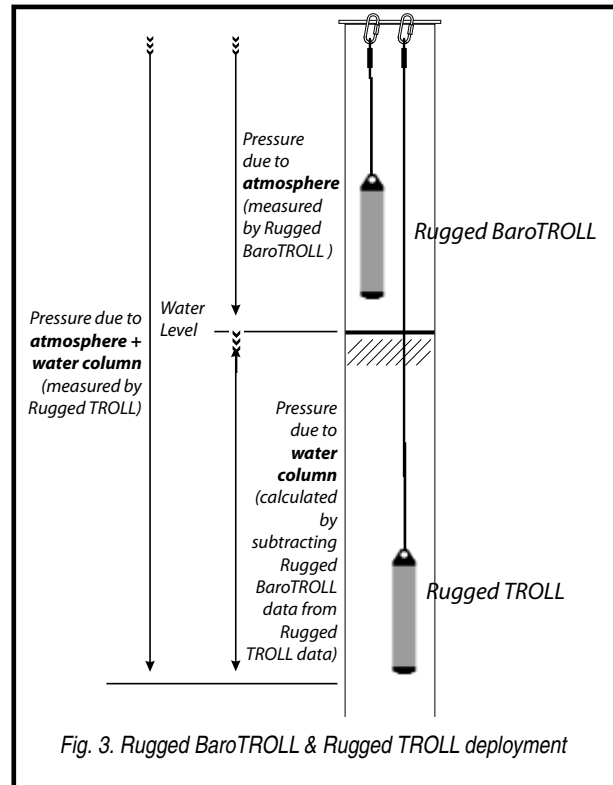

Fig. 3. Rugged BaroTROLL & Rugged TROLL deployment
- Disconnect, attach the hanger, and deploy suspended or lying in a protected location above water level, near the submerged Rugged TROLL 100 or 200. One possibility is shown in Fig. 3.
As shown in Fig. 3, the Rugged TROLL 100 and 200 instruments measure all pressure forces detected by their absolute pressure sensors. These forces include barometric (also called atmospheric) pressure and the pressure of the water above the sensor. As a result, logged data will show the effects of changes in barometric pressure. These effects can be removed manually (see the technical note "Manual Barometric Correction" in the Technical Resources section of the In-Situ website). To automatically remove barometric pressure effects, use Win-Situ Baro Merge software to post correct non-vented water level data.